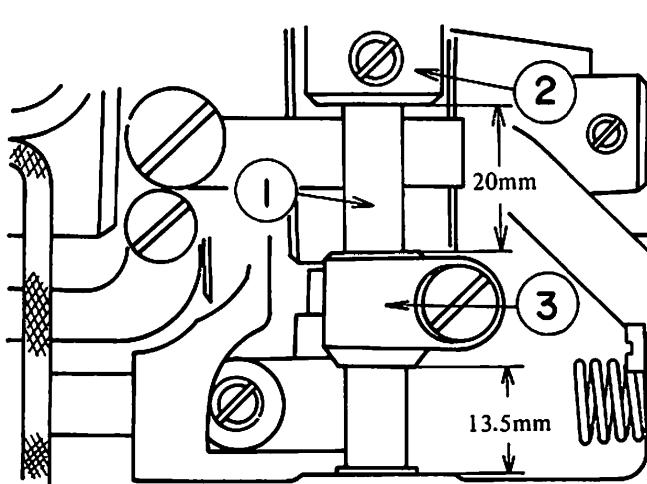

Fig. 34
The moving range of the slide shaft (Fig.34 ①) is 5.4mm(7/32"). This is adjusted by moving the slide collar (Fig.34 ②) toward the shaft direction. Also, the position of the cam roller shaft arm (Fig.34 ③) should be 13.5mm(33/64") as shown in Fig.34.
① Determine the position of the thread trimming arm stopper depending upon the position of the hook thread presser.
② Adjust the position of the slide collar so that the moving range of the slide shaft comes to 5.5mm(7/32").
③ Adjust the position of the thread trimmer magnet (DC solenoid).